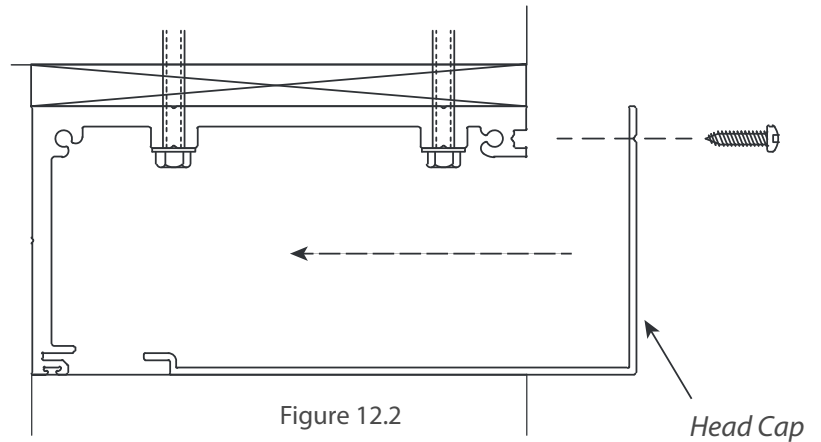

Figure 12.2
6.1. Make sure the door is completely closed, then measure the height of the sill gasket carrier to the floor right, left and center. (Figure 12.2)